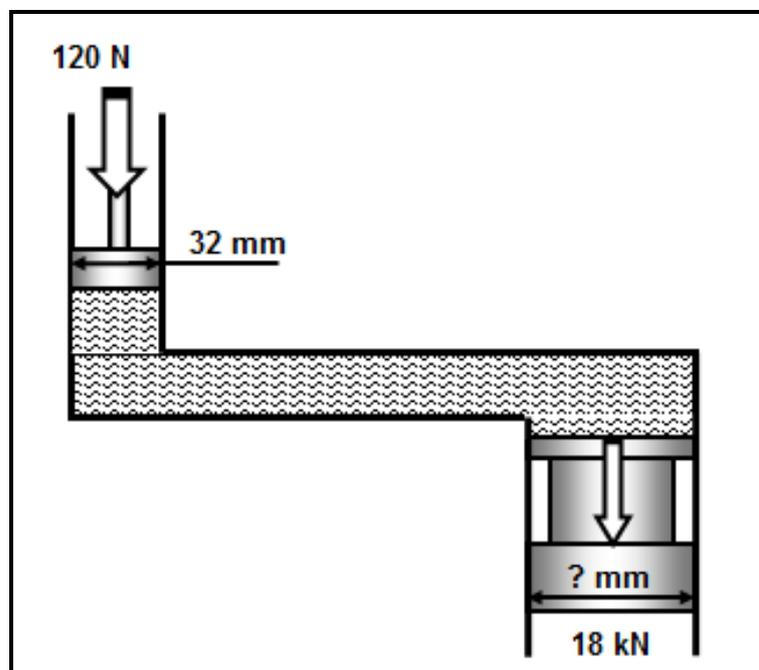

FIGURE 11.2
11.2 Study FIGURE 11.2 below. An artisan was instructed to design a hydraulic system that will be used to press out bearings. The force that should be exerted on the bearing is 18 kN. The maximum force exerted on the 32 mm plunger is 120 N.